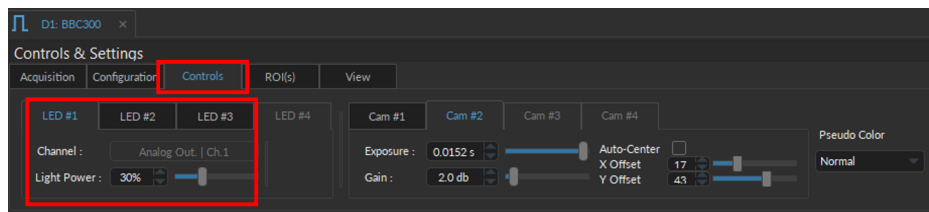

Figure 1.16: *Change LED light Power*
1. Go to the **Control** tab (Fig. 1.16).
2. Set the **Light Power** of LED #2 and #3 to 0%. In this case, only LED #1 will generate light (Fig. 1.16).